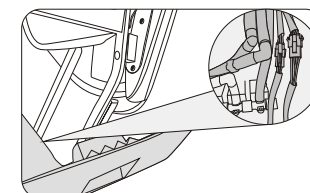

Figure 6
- Open the front dam-board, unplug the joint of air pipe and power cord corresponding to armrest. (figure 6)